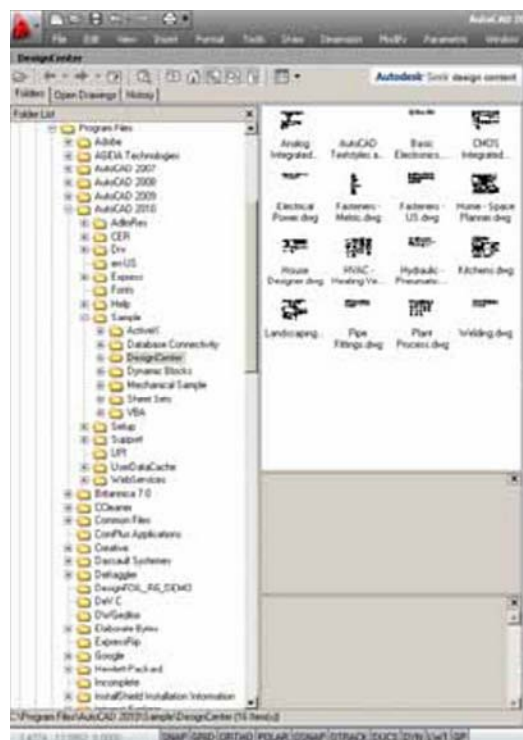

Figure 14.24 – Design Center
You will probably guess what the Design Center (DC) is as soon as you open it by using the cascading menus **Tools→Palettes→DesignCenter** (or typing in **dc** and pressing **Enter**). Be sure to dock yours to the left side of the screen and expand the two vertical categories to equal size for good visibility as shown in Figure 14.24.